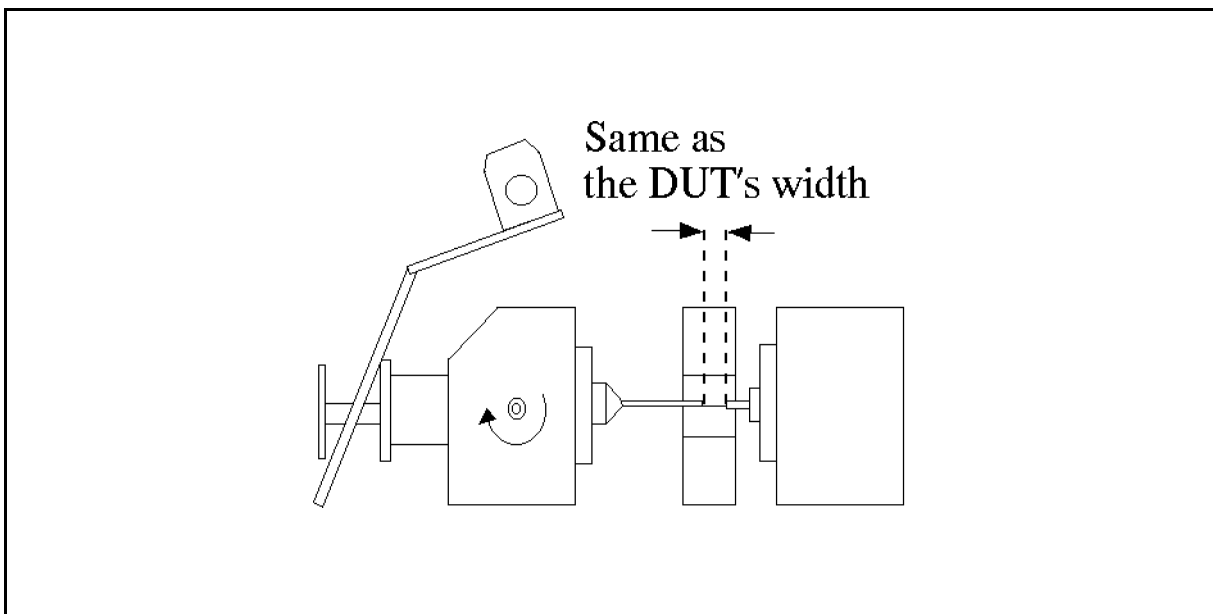

Figure 3-4. OPEN compensation for the SMD Module
1. Remove DUT if connected, and leave the SMD module electrode contact spacing the same as the DUT's spacing as shown in Figure 3-4